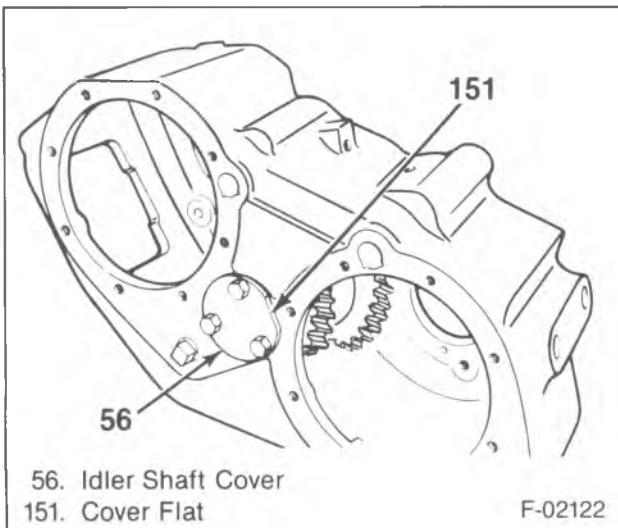

Figure 13—Idler Shaft Cover Alignment
- 7. Idler shaft cover gasket (55).
- 8. Idler shaft cover (56) (figure 13).
- 9. Idler shaft cover bolts (58).